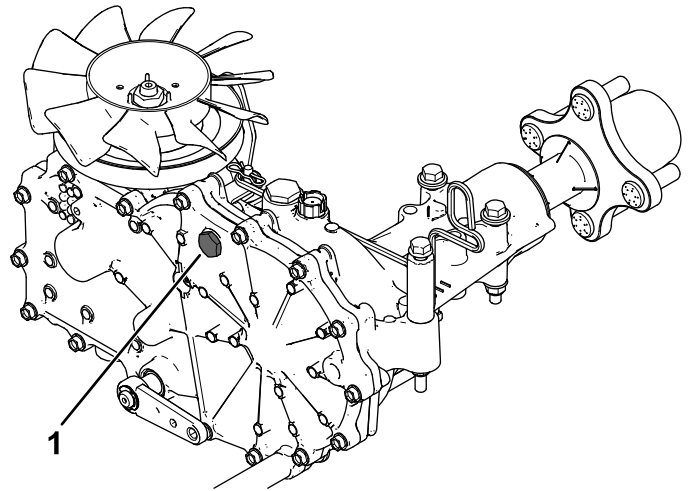
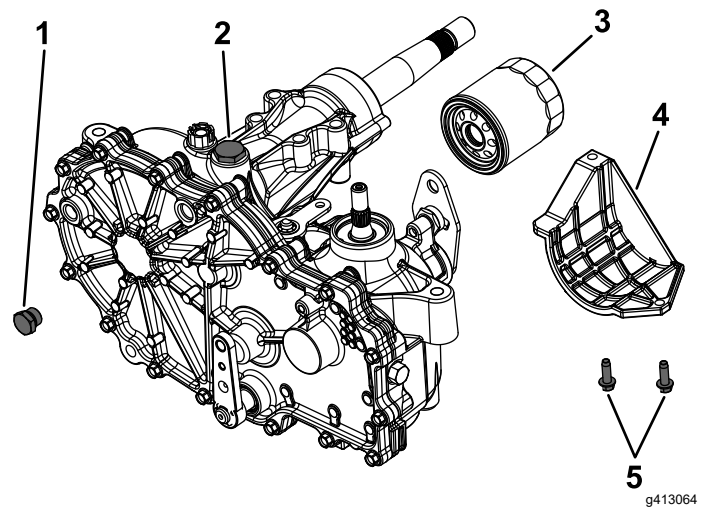

Figure 73
Figure 74
2. Remove the transaxle top port plug from each side and ensure that fluid appears at the bottom of each transaxle top port (Figure 73).
If necessary, add Toro® HYPR-OIL™ 500 hydraulic fluid through the fill port until the fluid appears at the bottom of each transaxle top port (Figure 73 and Figure 74).
4. Locate the filter and guards on each transaxle-drive system (Figure 74).
5. Remove the 3 screws securing the filter guard and guard (Figure 74).
7. Remove the top port plug (Figure 74) from the left side and right side transaxles prior to filling with oil.
9. Install the top port plug into each transaxle as the oil level reaches this port (Figure 74).